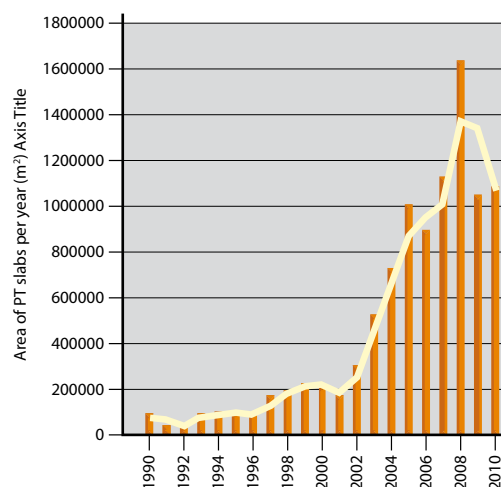

Figure 1: Increased use of post-tensioning in the UK buildings market.
The use of post-tensioning (PT) has increased dramatically over the last decade (see Figure 1). There are now many companies which offer post-tensioning supply and installation services in the UK; giving a choice for the purchaser and providing healthy competition. Most of these companies are subsidiaries of larger organisations involved in the construction industry, but there are also independents.